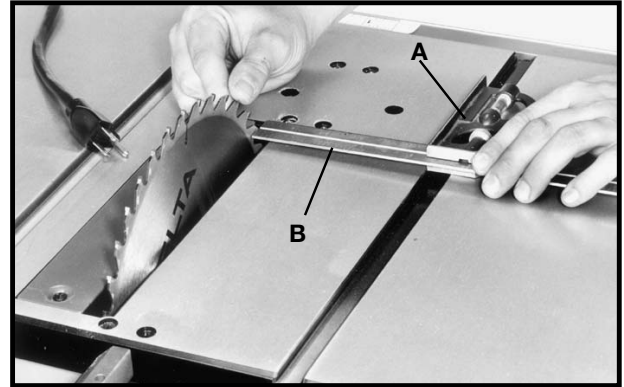
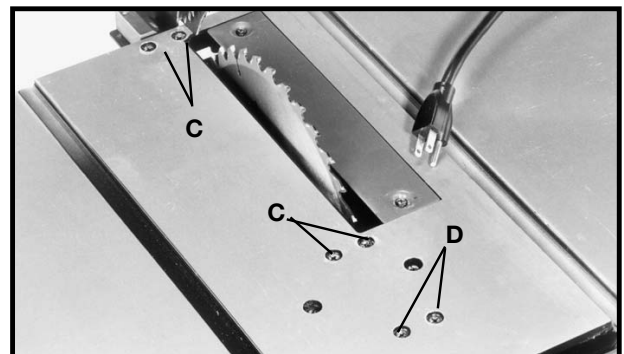

Fig. 42
Fig. 44
4. Using a combination square, place the body (A) Fig. 42, of the square against the miter gage slot and adjust the blade (B) of the square until it just touches the marked tooth, as shown.
6. If the front and back measurements (Figs. 42 and 43) are not identical, you can adjust the blade. Start by loosening the nuts below the four screws (C) Fig. 44 on the table. Then loosen the screws (C). Carefully move the saw blade until the blade is parallel to the miter gauge slot. When done, tighten four nuts under the table and the four screws (C) Fig. 44 securely.